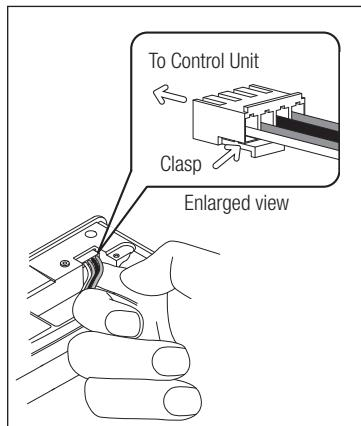

Fig. 8
- 5) To remove the connector, press the clasp underneath the connector to release it. (Fig. 8)